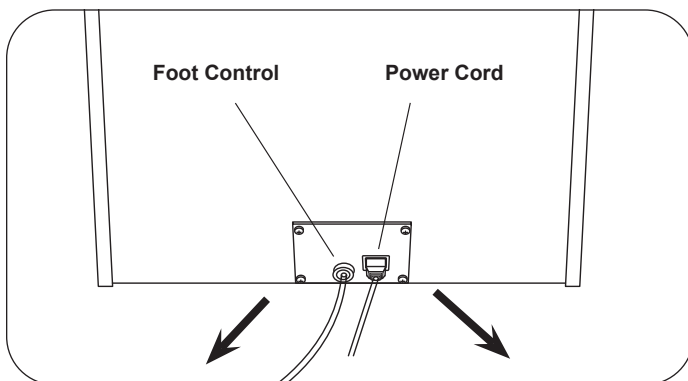

Figure 11. Power Cord and Foot Control Plugs
- Unplug foot control and power cord and place into rear storage drawer (Figure 11). The power cord for Models 6000/6500/6800/6000PLUS/6500PLUS, and 6800PLUS are attached to the table. You may want to place the receptacle end of the cord into the rear storage drawer to prevent damaging it while transporting the table.